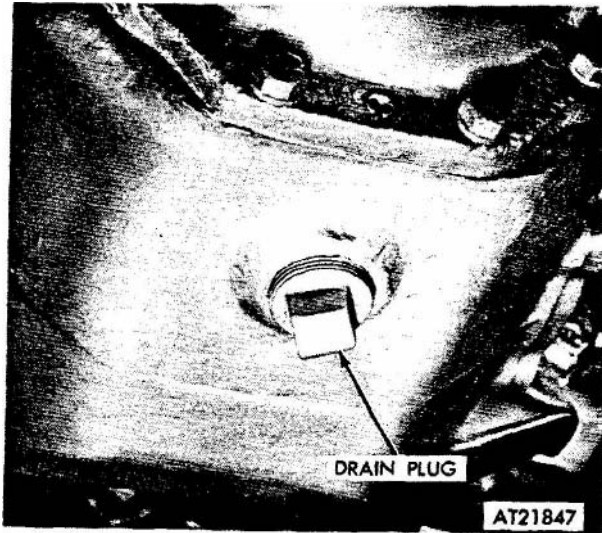

Figure 2-194. Center differential drain plug.
(14) Jack and block rear of tractor. Remove center differential drain plug and drain lubricant into a suitable container. Install drain plug (fig 2-194).